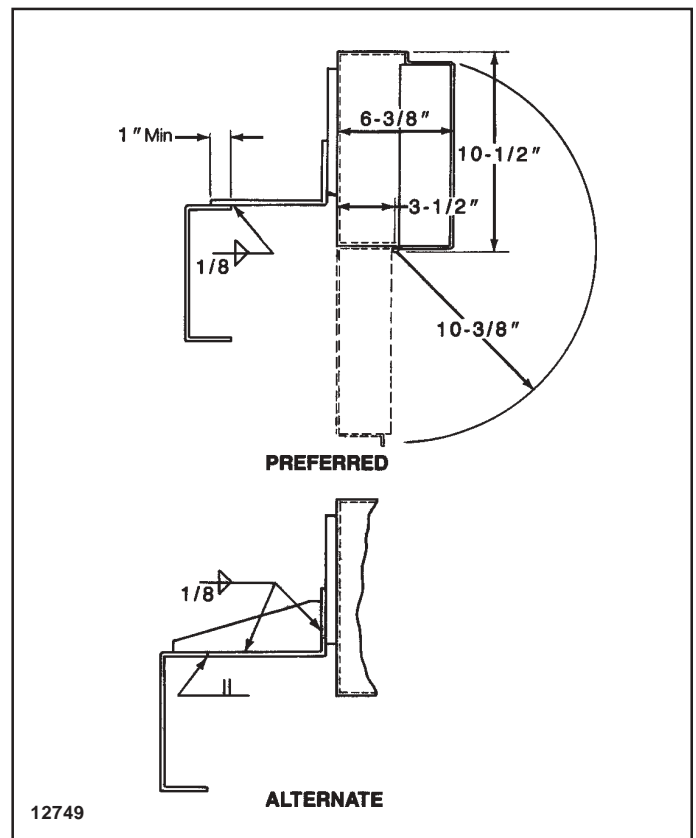

Figure 9.
11. The electrical enclosure is shown mounted on the inside of the truck over the gear reducer in Figure 17. The connecting bracket may be mounted in any of 3 vertical locations on the enclosure bracket when oriented as shown. It may also be rotated  $180^\circ$  (out standing leg at top) giving 3 additional positions. The enclosure bracket may also be adjusted horizontally on the enclosure. The connecting bracket may be welded to a truck or to the girder. If the bracket rests on the supporting member, a 1" minimum overlap is required. Weld as shown in Figure 9. If the bracket is to be supported by weld at the toe only, a stiffener plate must be furnished by the crane fabricator. Weld as shown in the alternate view in Figure 9.